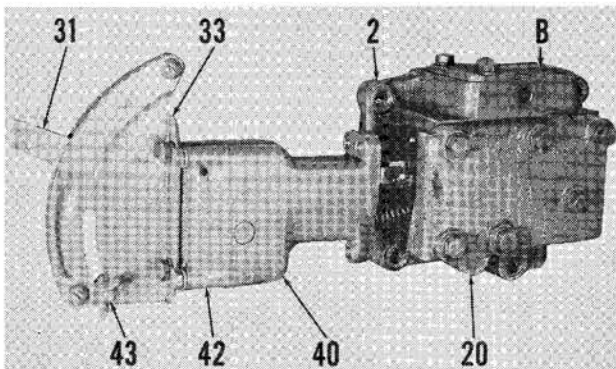

Fig. 181—View showing control valve lever support split from valve housing.
slowly push lever downward until desired rate of lowering is obtained and adjust the stop (43—Fig. 181) on control lever quadrant to this position.
Fig. 182—Control valve spool (36) can be removed from link (35) after removing lever support as shown in Fig. 181. Lever return spring (37) and follower (38) fit in bore in support.
**235. CONTROL VALVE SPOOL AND LINKAGE.** To remove control valve, unbolt control lever support from valve housing and withdraw link and spool with support. The valve spool can then be removed from the link and the lever return spring and cam roller can be withdrawn from the lever support; refer to Fig. 181.